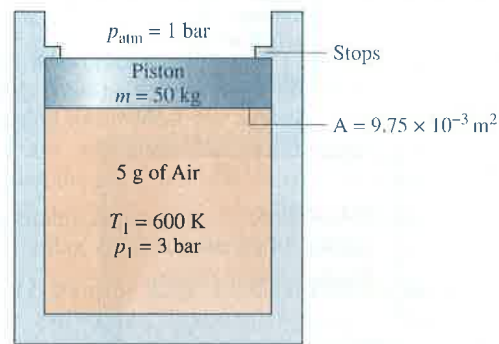

Fig. P3.132
- 3.132** As shown in Fig. P3.132, a piston-cylinder assembly contains 5 g of air holding the piston against the stops. The air, initially at 3 bar, 600 K, is slowly cooled until the piston just begins to move downward in the cylinder. The air behaves as an ideal gas, $g = 9.81$ m/s², and friction is negligible. Sketch the process of the air on a p - V diagram labeled with the temperature and pressure at the end states. Also determine the heat transfer, in kJ, between the air and its surroundings.